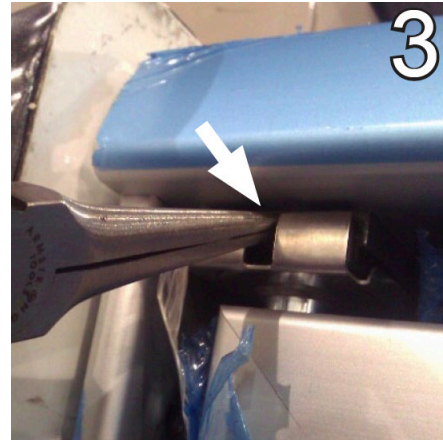

Fig. 69 Depress spring clip at top of door
3. Depress the spring clip at the top of the door (Fig. 69). Pull the top of the door free from the receptacle, then lift door free from the lower hinge plate. Set the door aside.